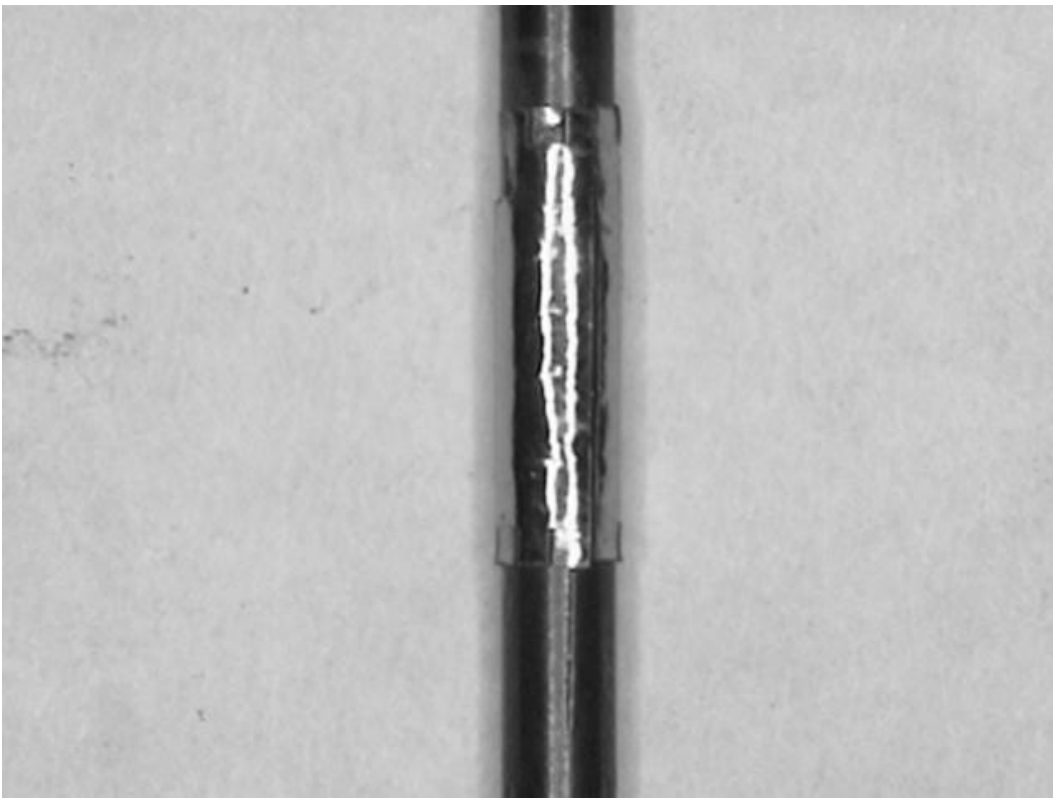

*Figure 2. Photograph of the rhenium foil furnace for the 10/5 assembly (original wide thermocouple slot version).*
2. Using your fingers, wrap the rhenium furnace (which is supplied as a flat piece, Figure 2) around a #40 drill blank, to create a cylinder. Wrap the furnace lengthwise so that the seam is parallel to the drill blank axis, and the tabs are on either end of the cylindrical furnace (Figures 3 and 4). Use your fingers and if necessary a flat plier to work the furnace around the drill blank until it's fairly tight around the drill blank.